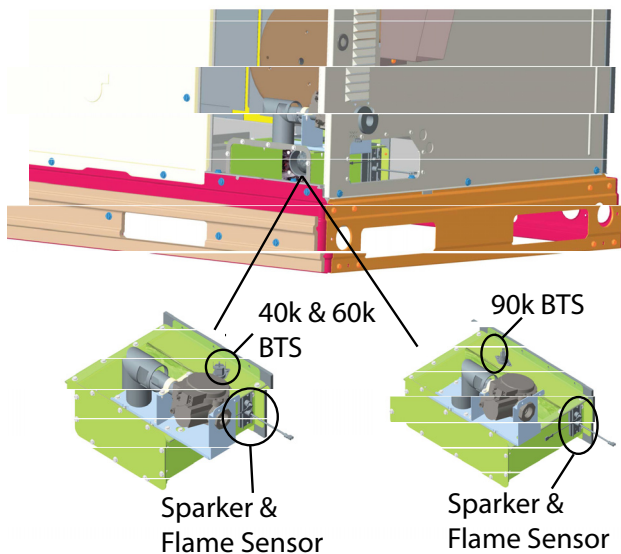

Fig. 8 – Burner Thermal Switch (BTS) (Ultra Low NOx) ^{A200287}
2. Remove 2 screws holding the flue hood (Fig. 8) and remove the flue hood.
6. Re-connect flue hood (Fig. 8) using the 2 screws removed.